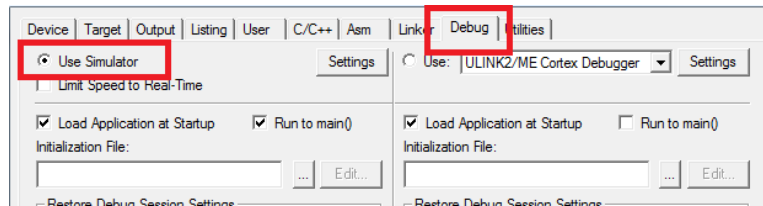

Figure 2.4: Keil IDE: Simulator Debugger Configuration
- the simulator is used (see figure 2.4).